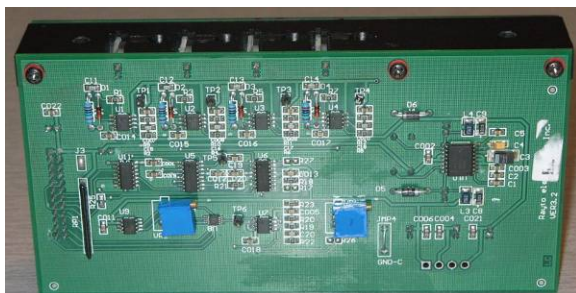
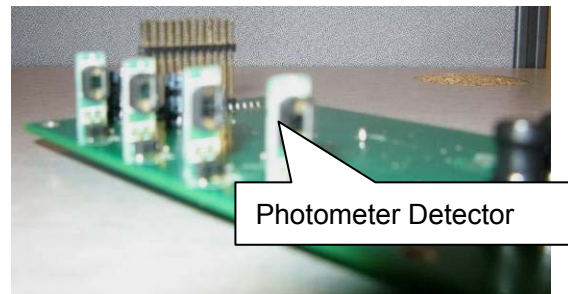

Figure 4-10
Figure 4-11
4. Remove 3 screws fixing the AD detector board as shown in Figure 4-10. Carefully remove the AD detector board as shown in Figure 4-11.